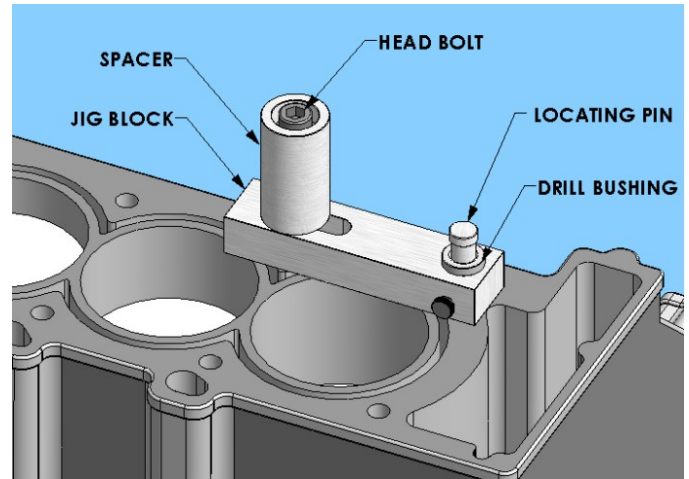

FIGURE 1A
2. **Figure 1A** – Install the Drill Bushing into the Jig Block, then snug it in place with the thumb screw located on the side of the Jig. Make sure the deck surface is clean. Mount the Jig Block in a good head bolt hole near the hole being repaired, using the tall Spacer (see note below), along with a **NEW** head bolt (**old head bolt threads are normally stretched out of pitch, causing them to seize in the new insert**). With the jig loose, center the Drill Bushing over the hole being repaired by install the Locating Pin through the Drill Bushing and into the top of the hole. Hold Locating Pin down firmly so that the tapered end of the pin centers itself into the top of the hole. Tighten the Jig in place, being careful not to over tighten. Remove the Locating Pin.